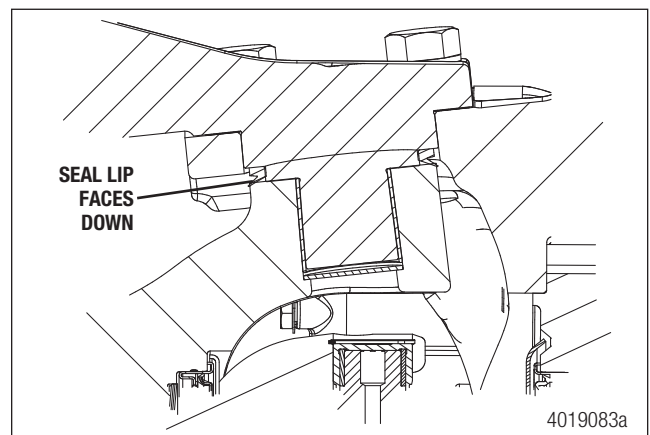

Figure 14.7
7. Install the grease seal onto the steering arm/upper king pin with the seal lip facing DOWN. Lightly coat the seal lip with grease. See Table K: Front Axle Grease Specifications on page 62. Figure 14.7.